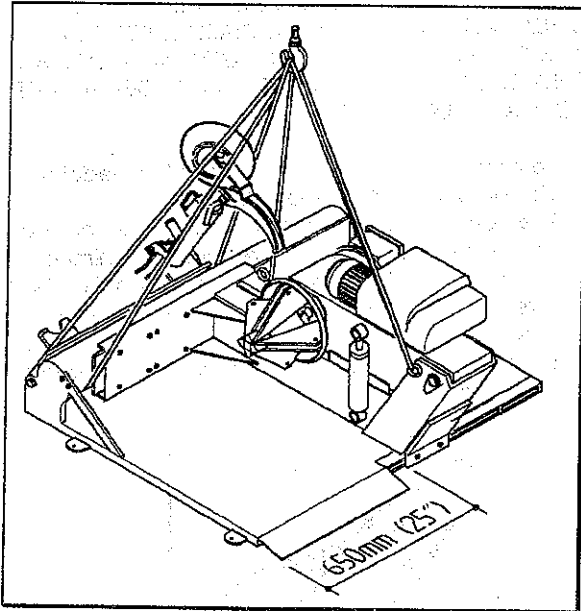

Fig.12
- A. Before raising the machine, ensure that the chuck is completely closed, that the chuck arm is lowered and the chuckholder arm and toolholder arm are in the position specified in Fig.12.
Lift the machine only with the two lifting lugs with a belt or rope of appropriate length and strength (300 cm - 10') (Fig.12).